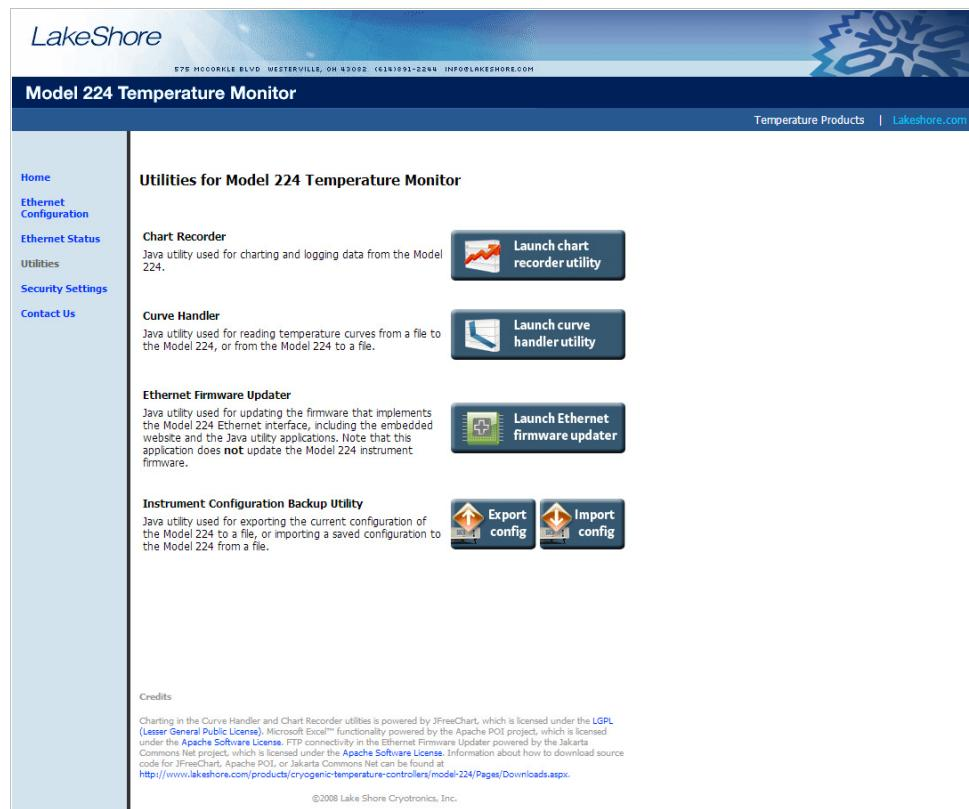

FIGURE 6-8 Utilities page
1. On the Utilities page in the Model 224 embedded website, click **Export config** (FIGURE 6-8).
1. On the Utilities page in the Model 224 embedded website, click **Import config** (FIGURE 6-8).